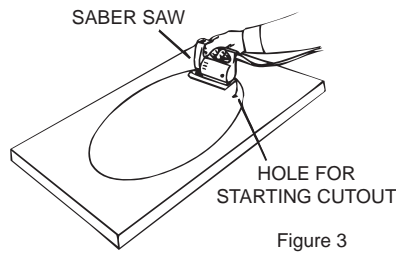

Figure 3
8. Drill a hole in the line you have drawn. The hole should be large enough to take the blade of a key hole or saber saw. Carefully saw along the line. See Figure 3. Support the piece you are cutting out to prevent splitting when the cut is nearly complete.